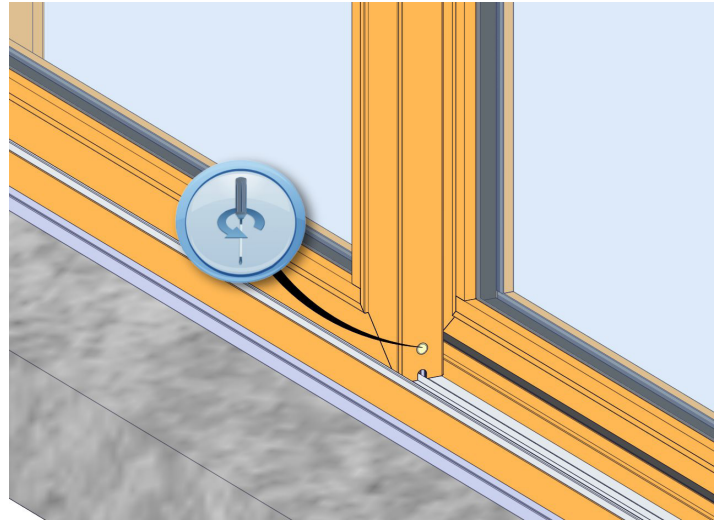

Fig. 28
2. Adjust rollers as needed to insure the panel is level, square, and slides smoothly. (Fig. 28)